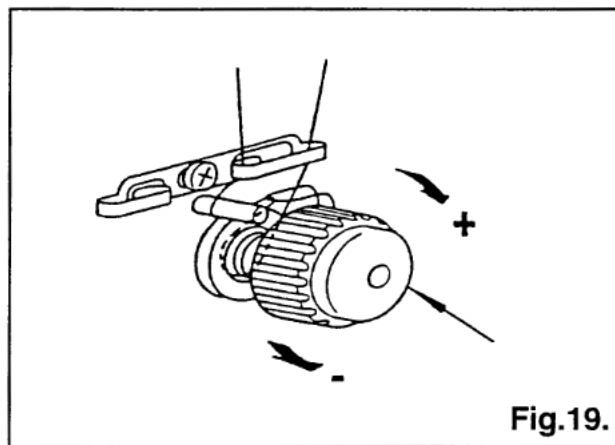

Fig.19.
Regulate needle thread tension with tension regulating knob (1), Fig.19.